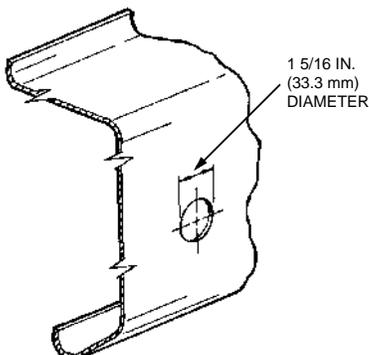

FIGURE 10
1. Punch or drill a 1 5/16 in. (33.3 mm) diameter hole for mounting the actuator body. See Figure 10. Make certain there is enough room under the dash for the actuator body, cartridge, and the 1/4 actuation hose connection.